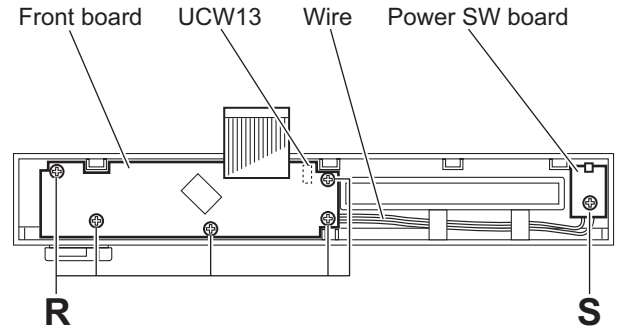

Fig.15
3.2.1 Removing the front board (See Fig.15)
3.2.2 Removing the power SW board (See Fig.15)